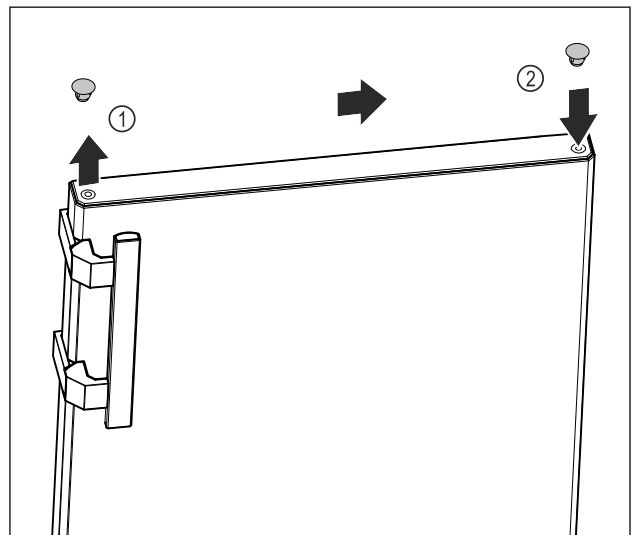

Fig. 18
- ▶ Carefully lift the cover plug on the top of the door *Fig. 18 (1)* with a slotted screwdriver.
- ▶ Insert the cover plug on the opposite side. *Fig. 18 (2)*